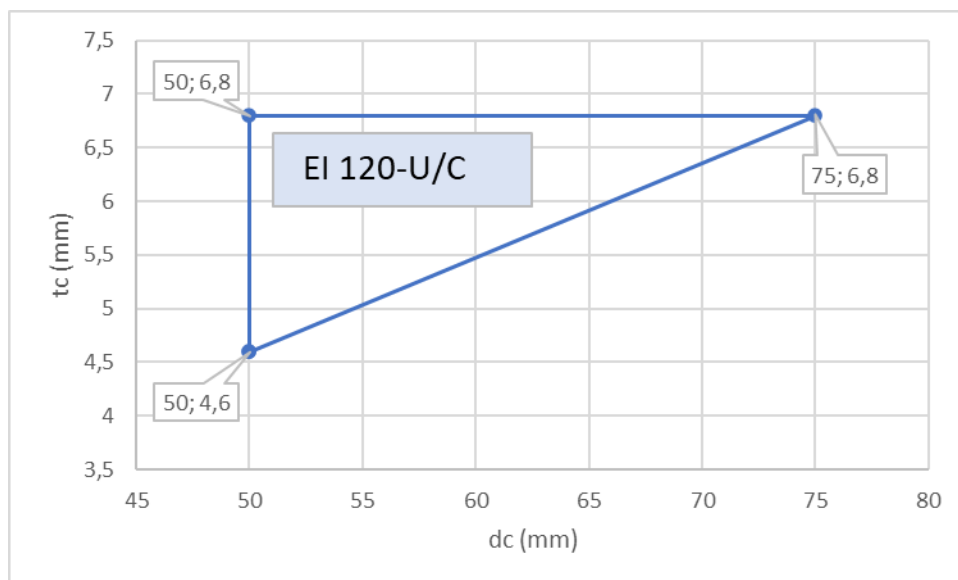

Figure 70: Classified pipe range for Wavin W-pipes, FEF-insulated, sealed with CFS-C EL
- For pipe dimension refer to Figure 70